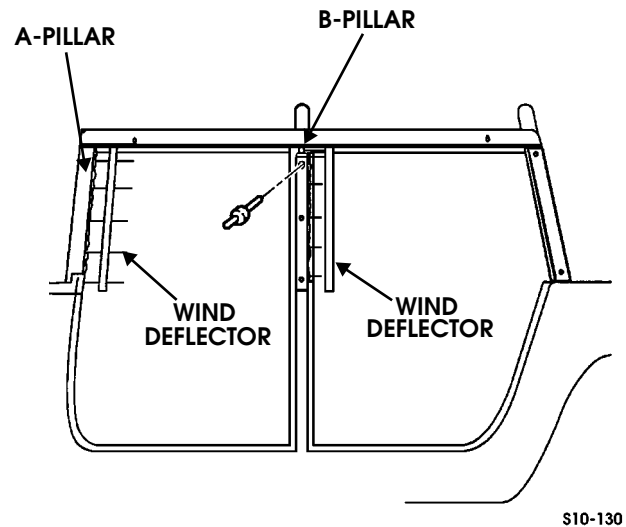

Figure 10-143: Wind Deflector Installation
7. Coat mating surfaces of front and rear wind deflectors with silaprene adhesive and secure to A-pillar and B-pillar with ten rivets (Figure 10-143).